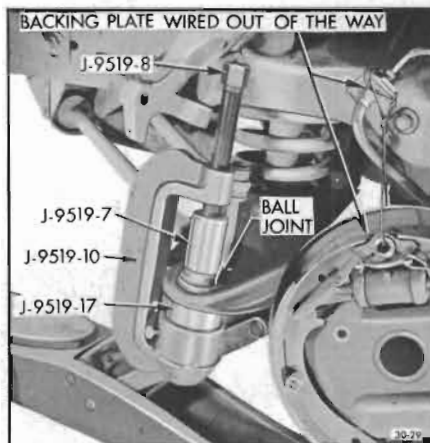

Figure 30-29—Lower Ball Joint Remover in Place
6. Install lower ball joint remover and installer as shown in Figure 30-29.